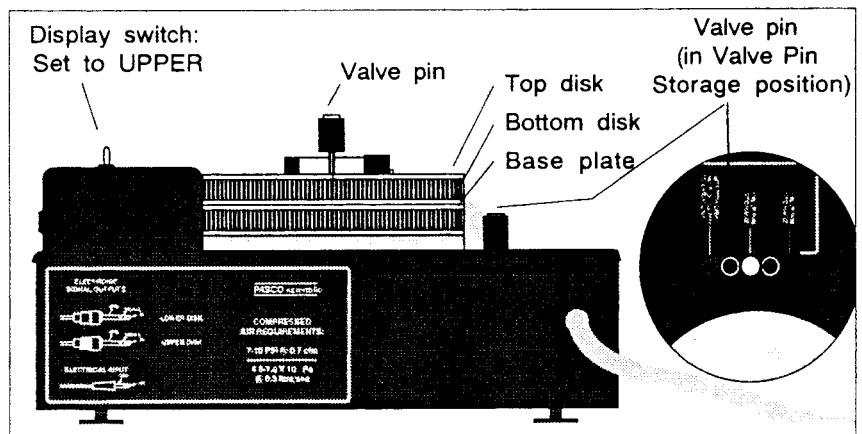

Figure 1.1 Equipment Setup
- ① Set up the equipment as shown in Figure 1.1. Use either the steel or aluminum disk as the top disk.
- ② Use the bubble level to check that the base of the apparatus is level. If not, adjust the leveling feet.
- ③ Plug in the AC Adapter to that the digital display comes on, and flip the switch on the display to UPPER, so the top disk is monitored by the optical readers. Then turn on the compressed air and adjust the pressure to approximately 9 psi.
- ④ Check that the valve pin for the lower disk is in the storage position, so that the lower disk rests firmly on the base plate.
- ⑤ Give the top disk a gentle spin, so that the digital display reads somewhere between 100 and 200 Hz. Watch the reading on the digital display for several minutes. Is it constant, or does the reading increase or decrease?